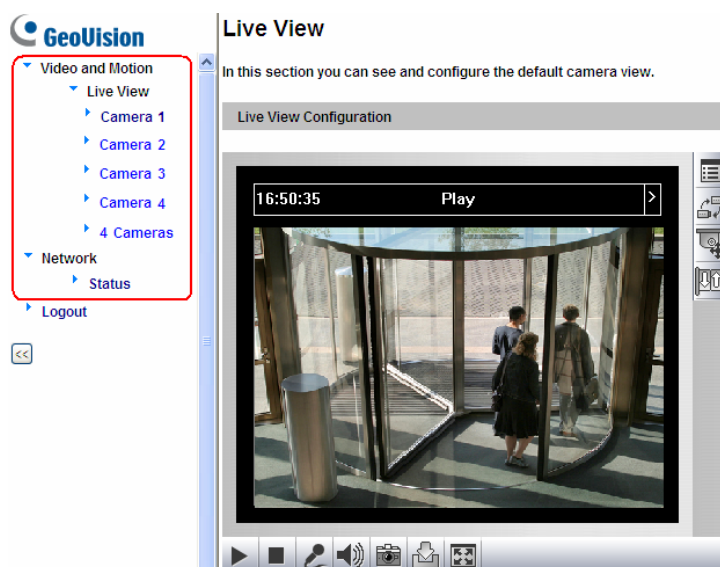

Figure 3-2 Main page of GV-VS04H in Guest Mode
- For Internet Explore, a video image, similar to the example in Figure 3-2, is now displayed in your browser.